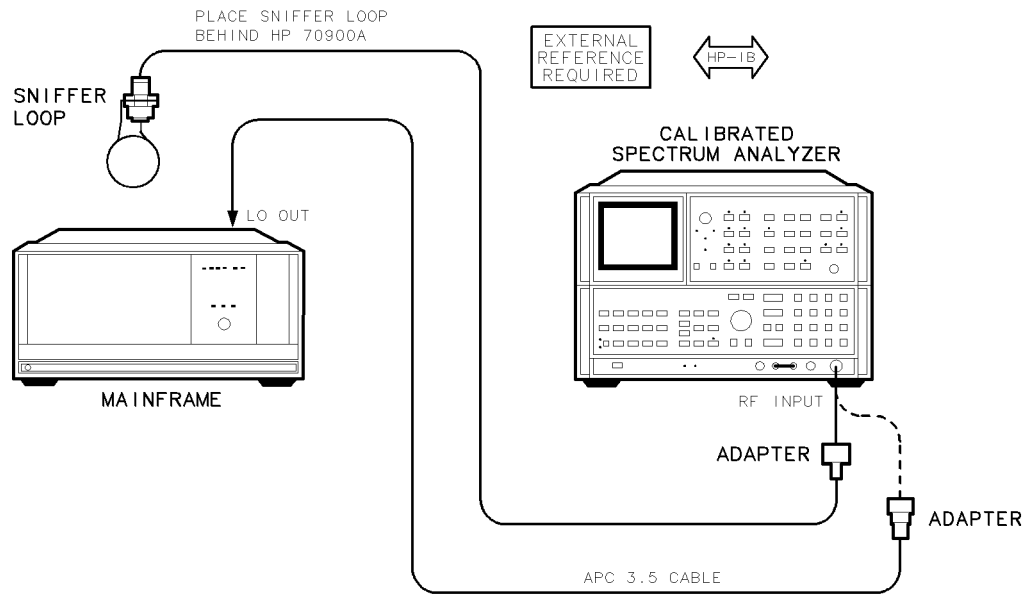

Figure 7-7. LO 40 kHz Sidebands Test Setup
1. Connect the HP 8566B spectrum analyzer's RF INPUT using the adapter to the DUT's LO OUT, as shown in Figure 7-7.
2. Connect the sniffer loop to the spectrum analyzer's RF INPUT using the adapter, as shown in Figure 7-7.